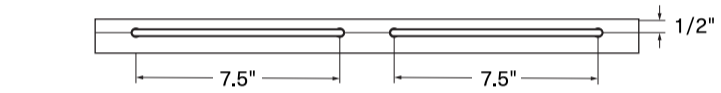

Fig 7c - Fence Strip B slot dimensions
7.5 Flip the workpiece end-over-end, and repeat until both 7.5" slots are routed all the way through (Strip B) [Fig 7c].